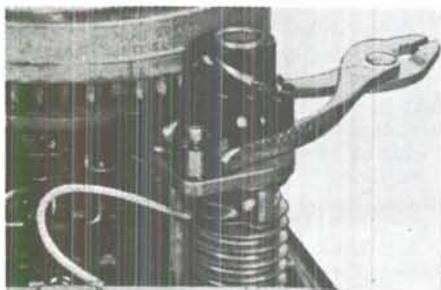
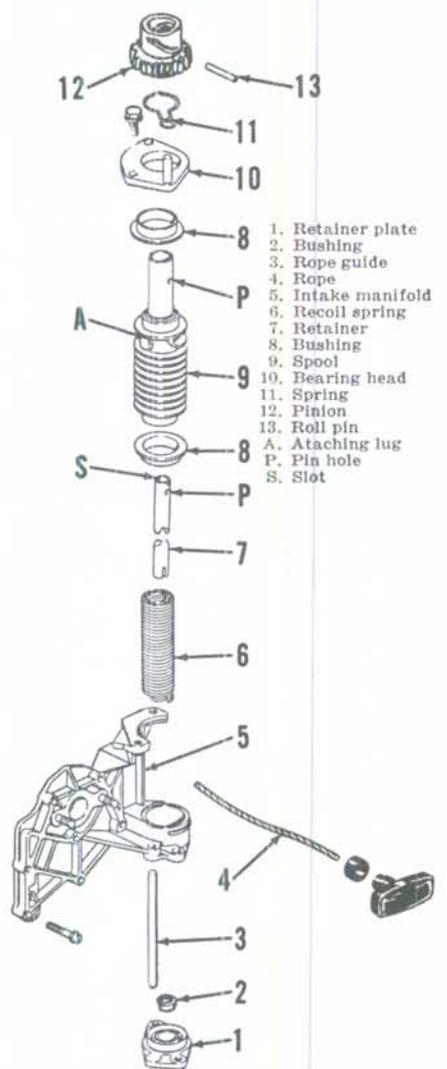

Fig. OM4-14—The starter pinion can be blocked up as shown for removing starter rope.
Fig. OM4-15—Exploded view of recoil starter and associated parts. Intake manifold (5) contains the mounting bracket for starter unit.
Refer to Fig. OM4-15 for an exploded view of starter assembly. Starter mounts on intake manifold as shown, and rope (4) extends through lower motor cover. The suggested procedure for rope renewal differs slightly from that required for other service; proceed as outlined for the type of service contemplated.
R&R STARTED ROPE. To RENEW a worn but still usable starter rope, remove upper motor cover and disconnect both spark plug high tension leads. Pull starter rope until almost fully extended. With rope-end in spool (9—Fig. OM4-15) accessible, block pinion into engagement with flywheel, thus locking the recoil mechanism. Refer to Fig. OM4-14. With starter securely locked, disconnect from rubber grip and lug (A—Fig. OM4-15). Install a new rope by reversing the removal procedure. With rope secured at both ends, remove the wedge and allow starter to recoil. If rope is broken or disconnected, assemble as outlined for service removal.
To renew a broken rope or reconnect starter rope after service, proceed as follows: Insert a heavy-duty screwdriver or brace with screwdriver bit through top of pinion (12—Fig. OM4-15) and spool (9) and into slot (S) in top of spring retainer (7). Turn screwdriver or brace counter-clockwise approximately 16½ turns until anchor (A) in spool is easily accessible; then engage pinion (12) in teeth in flywheel ring gear and lock the assembly by inserting a suitable block or wedge between pinion and upper bearing head. Refer to Fig. OM4-14. Thread the rope through hole in anchor (A—Fig. OM4-15), making sure rope is properly positioned behind rope guide (3); then re-install the grip. Remove the previously installed locking block and allow starter to slowly recoil.